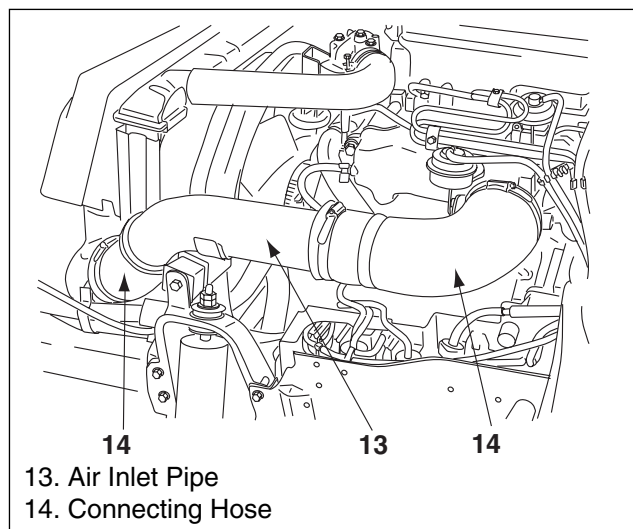

Figure 5. Intake Manifold Pipe Attachment
8. Air inlet pipe (13) with connecting hoses (14) from the intake manifold and the charge air cooler (12) (figure 5).
9. Charge air cooler assembly (12) from the radiator.
26. Charge air cooler assembly (12) to the radiator.
27. New gasket and the air inlet pipe (13) with connecting hose (14) (figure 5).